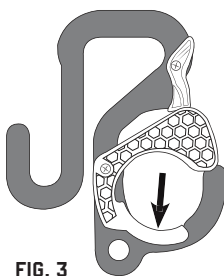

FIG. 3
- c. Once connected, the weight of the equipment will force the “lock loading point” down locking the gate in place (FIG 3).